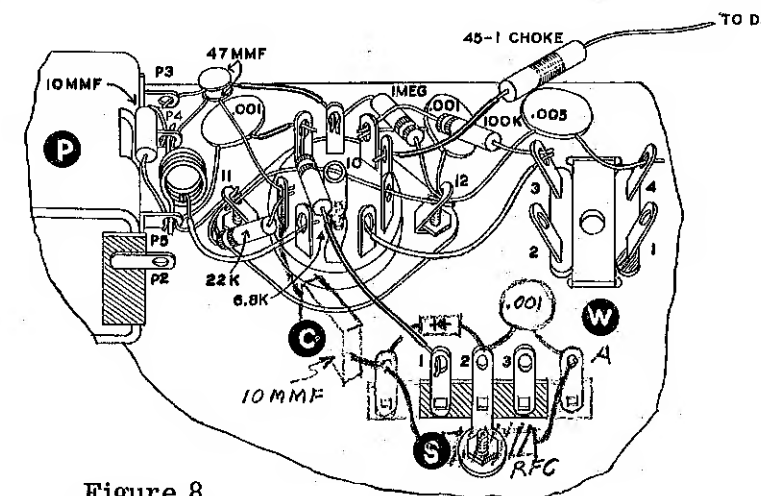

Figure 8
- (✓) Mount the tuning condenser assembly at location PQR orienting it as shown. Place short 6-32 x 3/16 screws through locations P and R, with lockwashers under the heads. Observe Figure 5. Do not install a screw at Q yet. Dress the .001 µfd disc condenser under the oscillator coil as shown in Pictorial 1 and Figure 8.